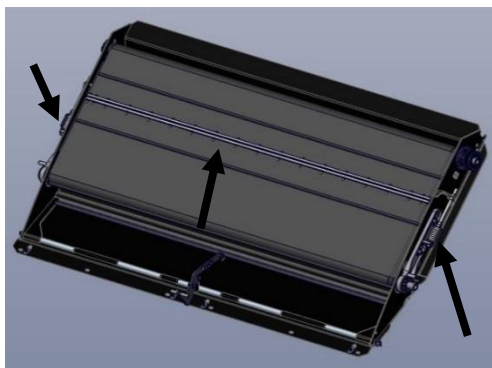

Figure 82
2. To remove the draper belt, loosen the tension off the belt by loosening the spring tension off on both sides of the deck. Figure 82
3. Remove all the bolts in the splice and pull the belt off the center frame Figure 82